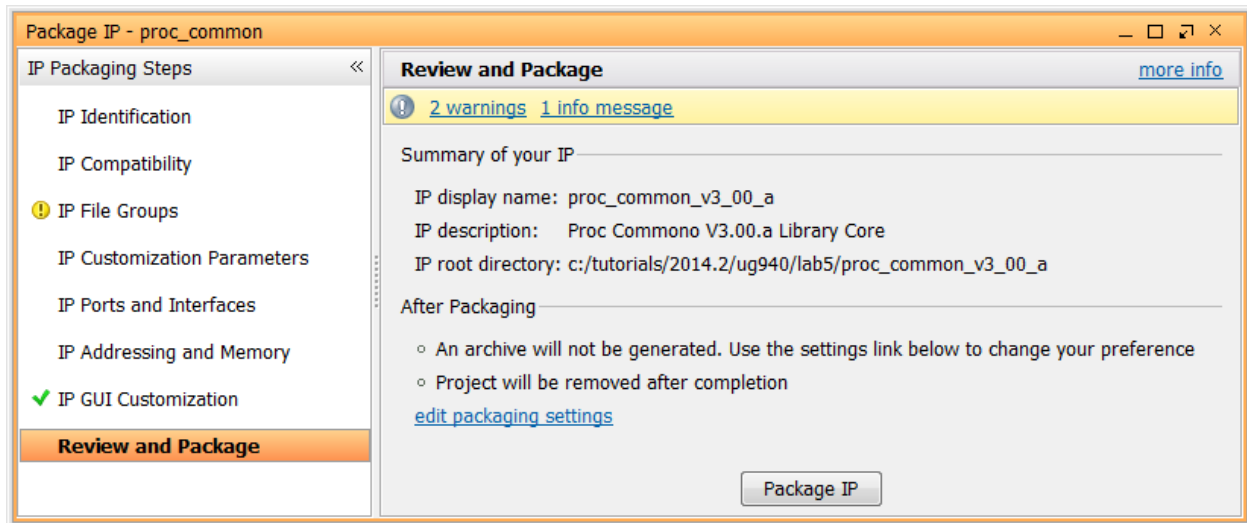

Figure 143: Review and Package the Library Core
12. Click Package IP (FIGURE 143).